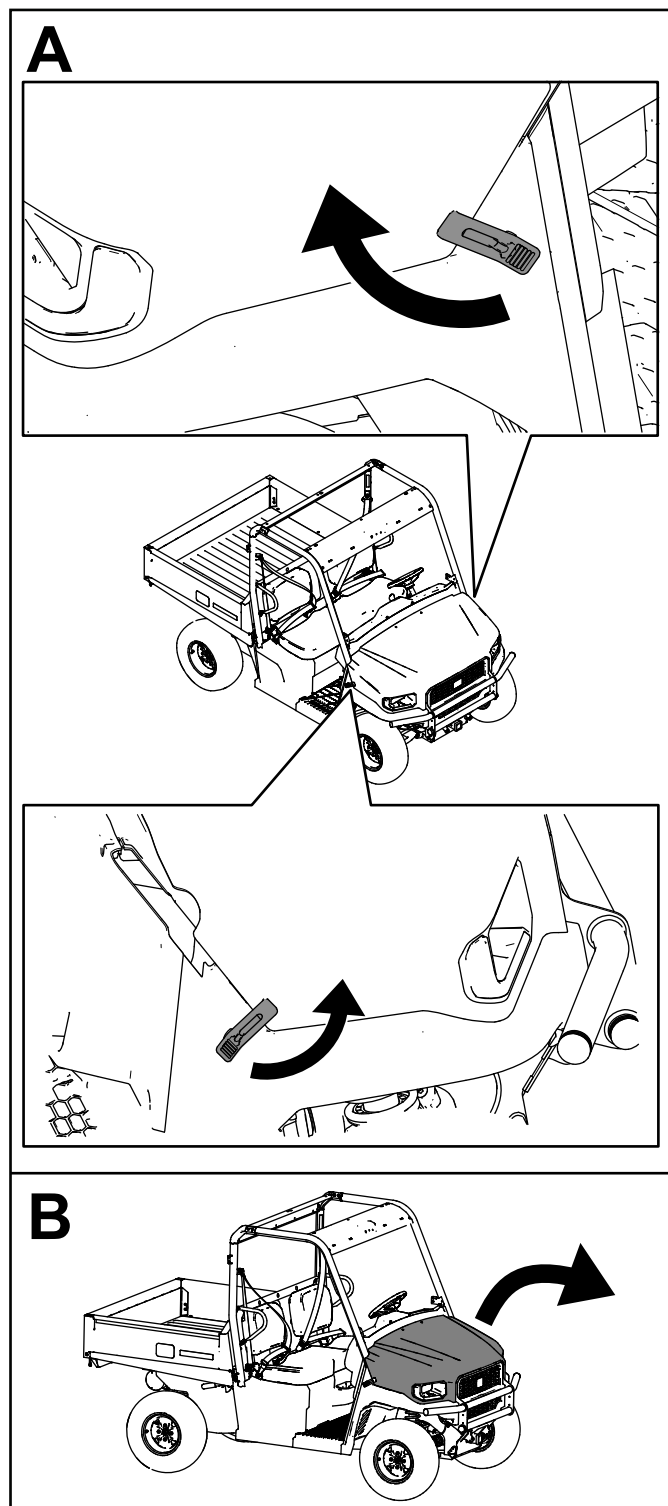

Figure 53
2. Secure the hood by aligning the rubber latches onto the latch anchors on each side of the hood (Figure 53).